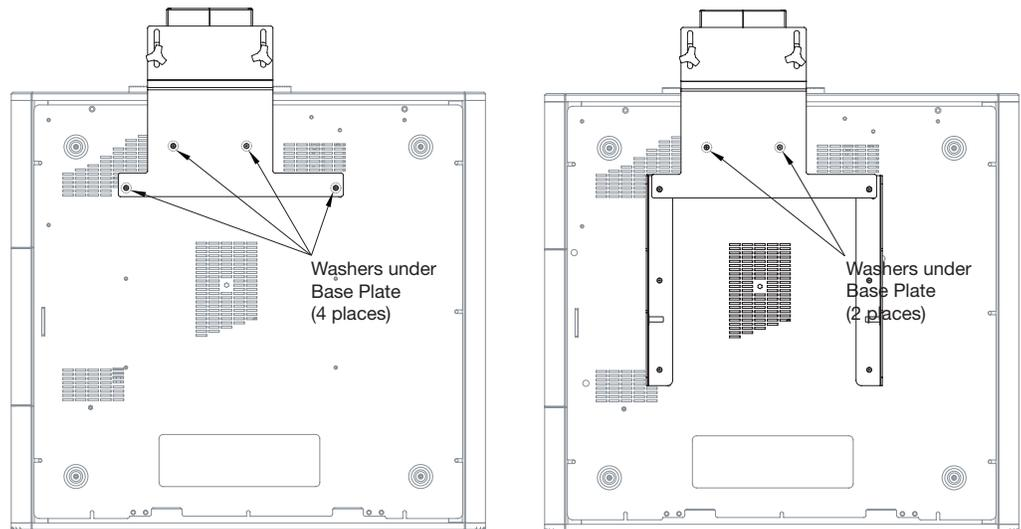

Figure 3-9. Vision 85/CineWide with Anamorphic Lens Base Plate and Ceiling Mounting Rails - Bottom View
2. **If you are mounting the Vision 85/CineWide on a ceiling:** Position the left and right ceiling mounting rails (provided with the Vision 85 ceiling mount kit) as shown in Figure 3-9. Position the CineWide base plate on top of the ceiling mounting rails so that the outermost holes line up with the front mounting hole on each rail.